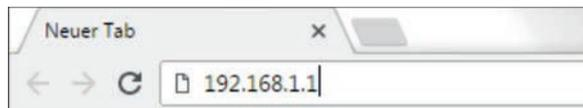
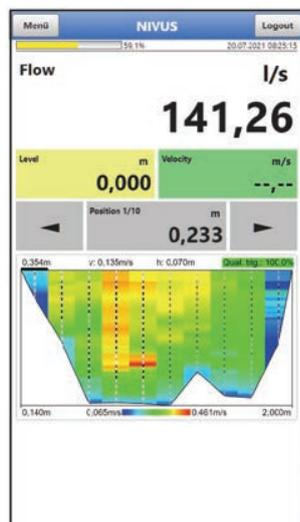

Fig. 26-20 Address field
Fig. 26-21 Indication of NivuFlow Stick display in the browser
6. Enter the IP address "192.168.1.1" in the address field (Fig. 26-20) and open. After successful connection the display of the NivuFlow Stick (Fig. 26-21) is shown.